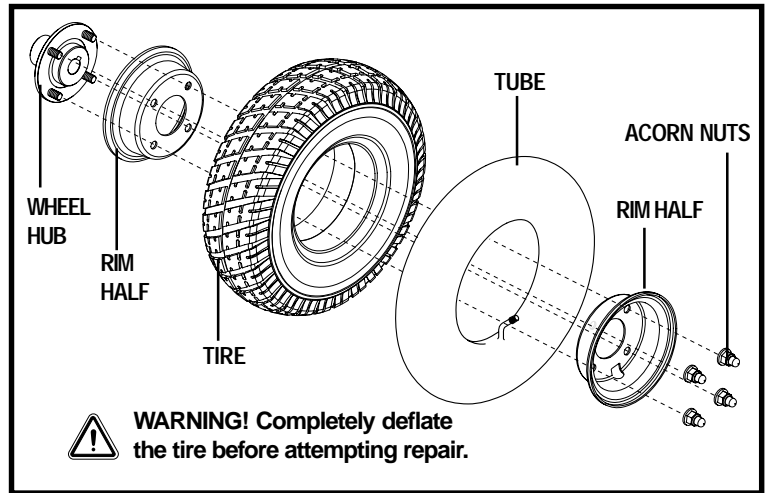

Figure 22. Tire Removal
8. Remove the acorn nuts that fasten the two rim halves together. See figure 22.
12. Reinstall the drive wheel nut and washer onto the axle and tighten. See figure 22.